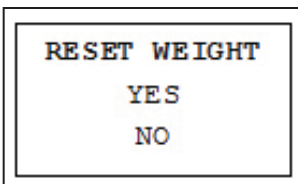

Fig. 5 Reset Weight
4. Press OK to reset lift number. The screen will read ACCEPTED, then switch to the screen shown in Fig. 5. YES will flash.